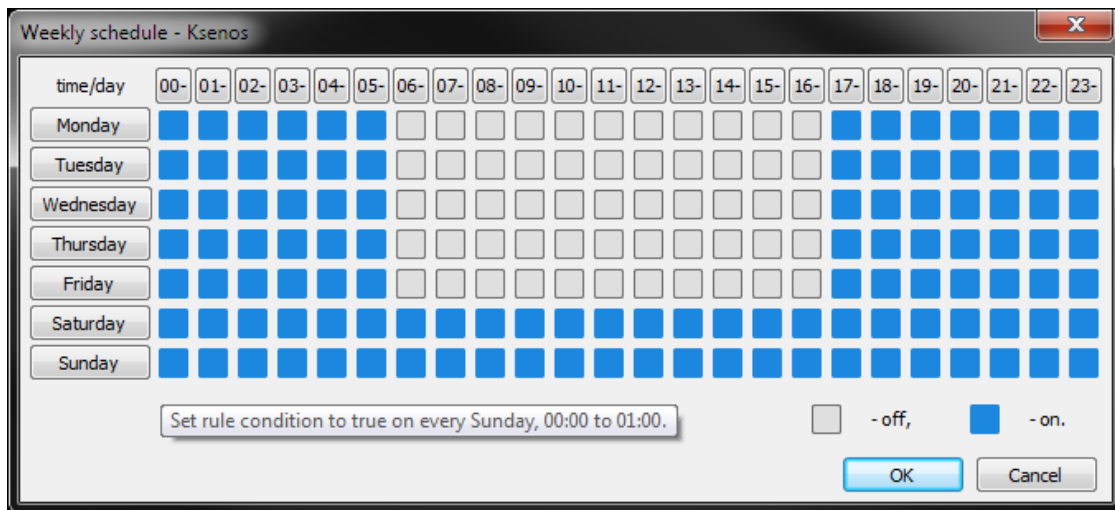

Figure 5.13: Weekly schedule-window
- Choose condition “Schedule” and click the green grid next to the drop-down menu - Weekly schedule-window opens up (Figure 5.13).